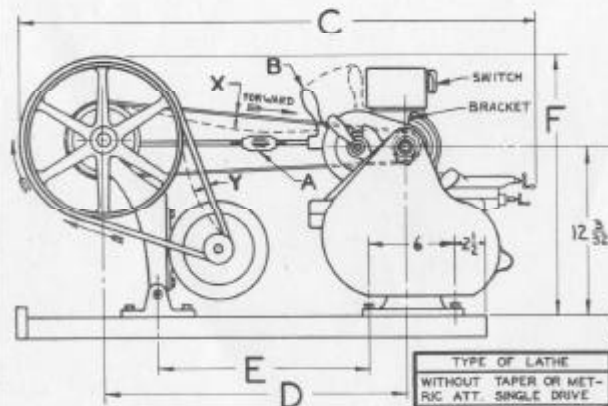
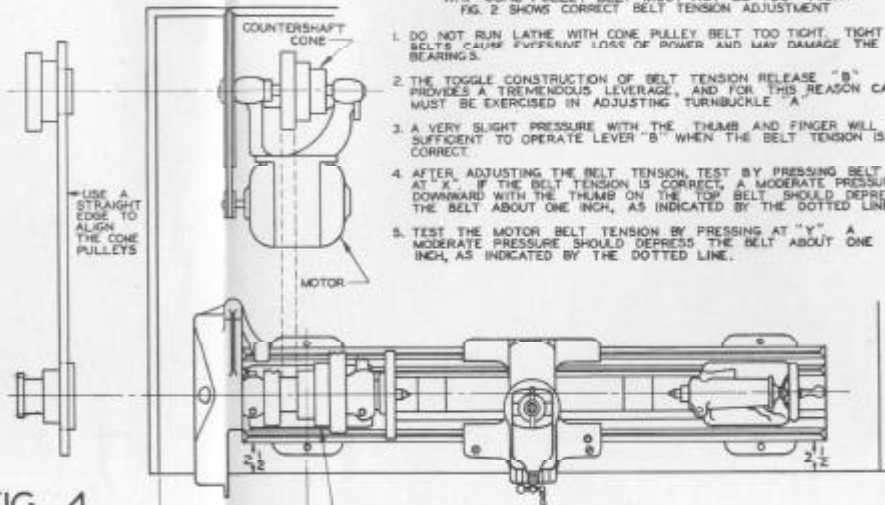

FIG. 2
FIG. 4
2. SET COUNTERSHAFT ON BENCH. SEE FIG. 2. ALIGN COUNTERSHAFT WITH LATHE USING STRAIGHT EDGE FROM CONE TO CONE. SEE FIG. 4. SCRIBE AROUND INSIDE OF SLOTS IN BASE OF COUNTERSHAFT. REMOVE COUNTERSHAFT, DRILL BENCH FOR BOLTS, AND FASTEN COUNTERSHAFT TO BENCH.
## WHY CONE PULLEY BELT MUST NOT BE TOO TIGHT FIG. 2 SHOWS CORRECT BELT TENSION ADJUSTMENT